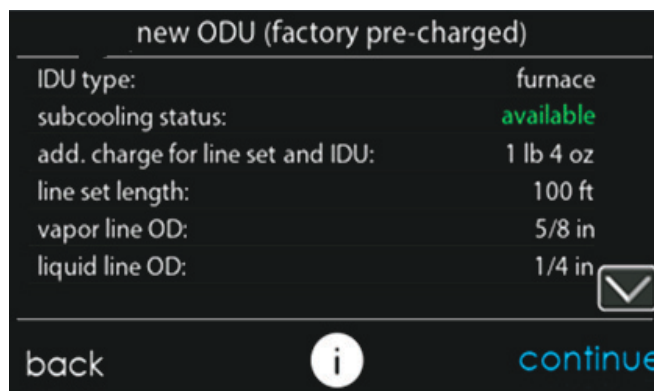
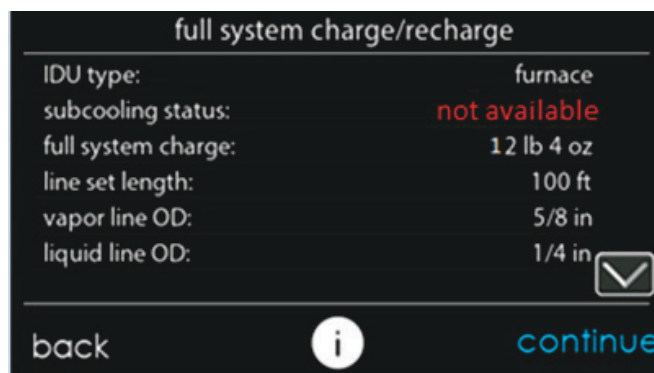

Fig. 15 – New ODU (factory pre-charged) - Subcooling Available
Fig. 16 – Full System Charge/Recharge - Subcooling Unavailable
7. If indoor and outdoor conditions are in range, subcooling status will be green and available (Fig. 15). If conditions are outside the range, subcooling status will be red and unavailable and will require a partial weigh-in of charge (Fig. 16). Both "new ODU (factory pre-charged)" and "full system charge/recharge" modes will allow the user to move forward to start the system regardless of whether subcooling charging is available. Lineset configuration and climate zone / odu material type can be changed by selecting appropriate line if needed. For "new ODU (factory pre-charged)" record the ADDITIONAL charge amount listed. For "full system charge/recharge", record the FULL system charge amount listed. Press continue..